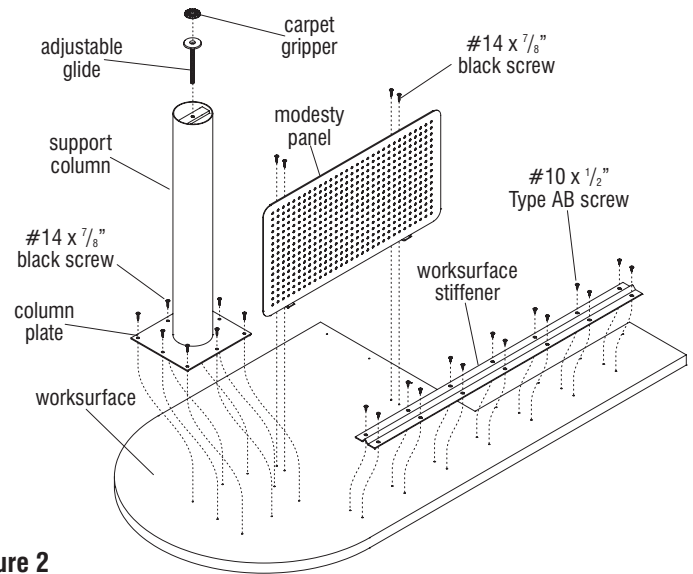

Figure 2
5. Carefully lay the worksurface upside down on a soft, protective surface. Position the worksurface stiffener over the pre-drilled holes in the worksurface and secure using #10 x 1/2" Type AB screws as illustrated (Figure 2).
6. Position the support column with the column plate over the pre-drilled holes and secure using eight #14 x 7/8" black screws (Figure 2).
7. Twist the adjustable glide into the bottom of the support column until fully inserted. If required, install a carpet gripper into the bottom of the glide. Final adjustment will be done at the end of the assembly process (Figure 2).
8. Place the modesty panel mounting brackets over the pre-drilled holes in the worksurface and secure using four #14 x 7/8" black screws (Figure 2).